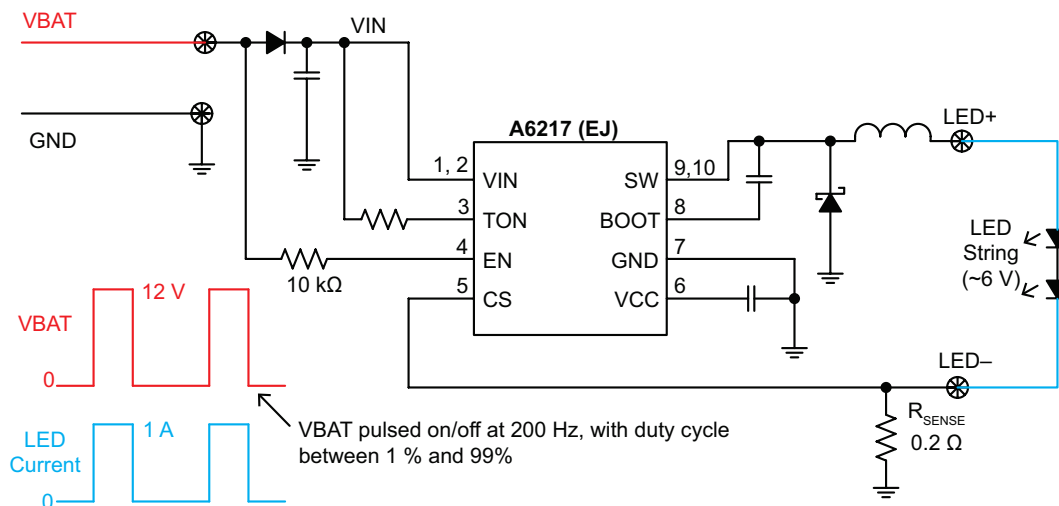

Figure 16: PWM Dimming of LED Current by Using Pulsed Power Supply Line
- Figure 16 shows PWM dimming of LED current by pulsing the power supply line